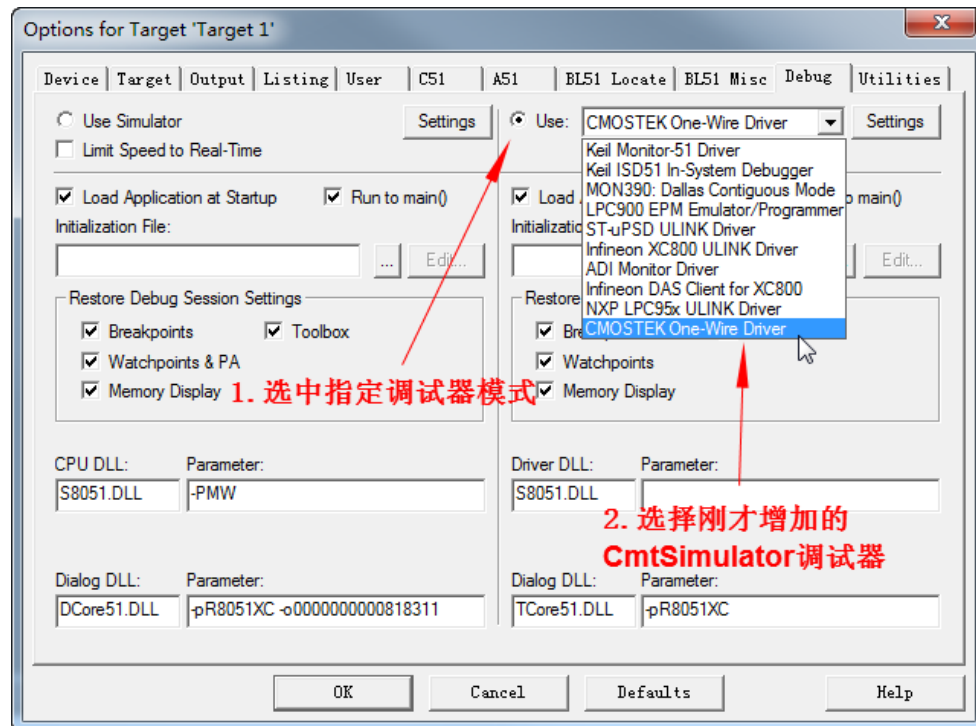

Figure 2-9. Select the CmtSimulator Debugger
- Step 4: Select the "debug" tab page on the "Options for Target 'Target 1'" interface, select the specified debugger mode (right side), and select the CmtSimulator debugger just added in the drop-down menu, as shown in Figure 2-9.